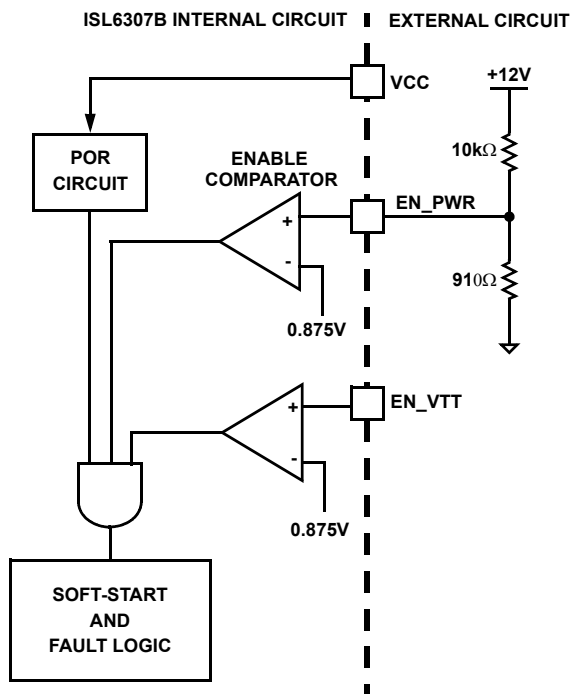

FIGURE 10. POWER SEQUENCING USING THRESHOLD-SENSITIVE ENABLE (EN) FUNCTION
2. The ISL6307B features an enable input (EN\_PWR) for power sequencing between the controller bias voltage and another voltage rail. The enable comparator holds the ISL6307B in shutdown until the voltage at EN\_PWR rises above 0.875V. The enable comparator has about 130mV of hysteresis to prevent bounce. It is important that the driver ICs reach their POR level before the ISL6307B becomes enabled. The schematic in Figure 10 demonstrates sequencing the ISL6307B with the ISL66xx family of Intersil MOSFET drivers, which require 12V bias.